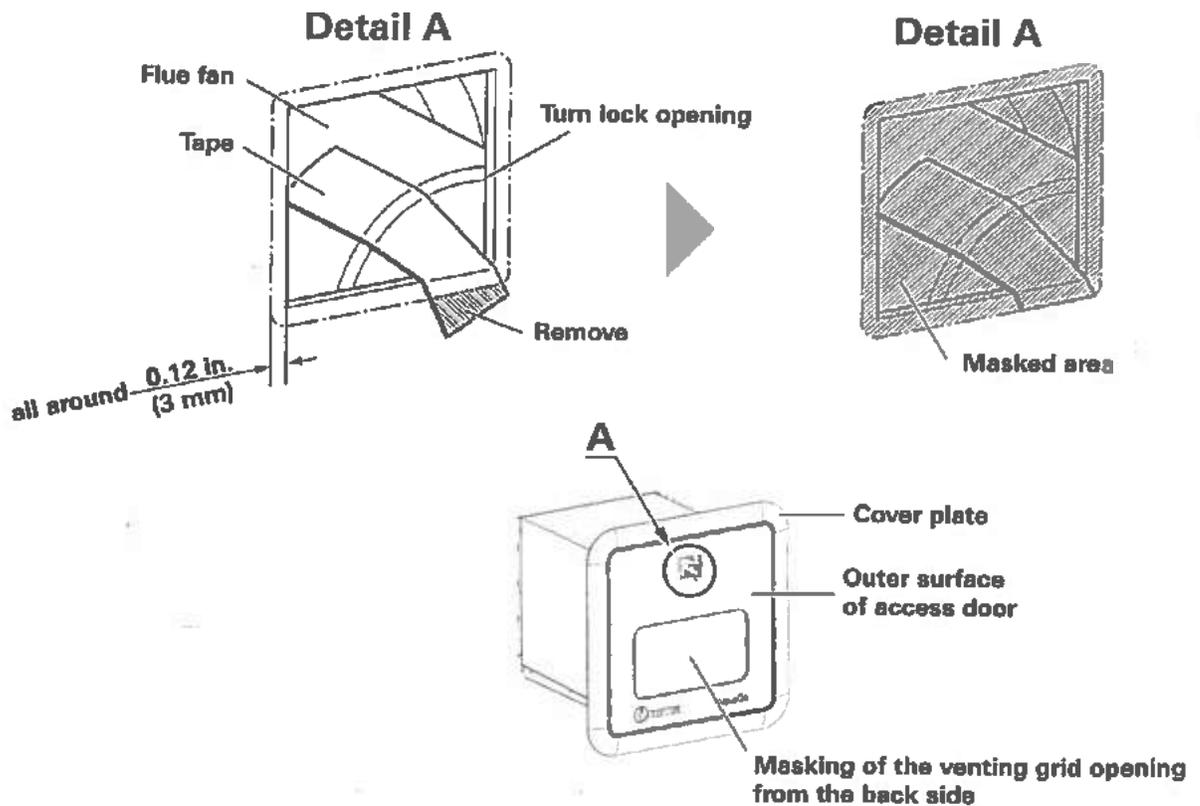

Fig. 38
**The following parts (see Fig. 38) may be painted:**
- This can be done with the help of tape that joins the flue fan and the edge of the turn lock opening (see Fig. 38 for this detail).